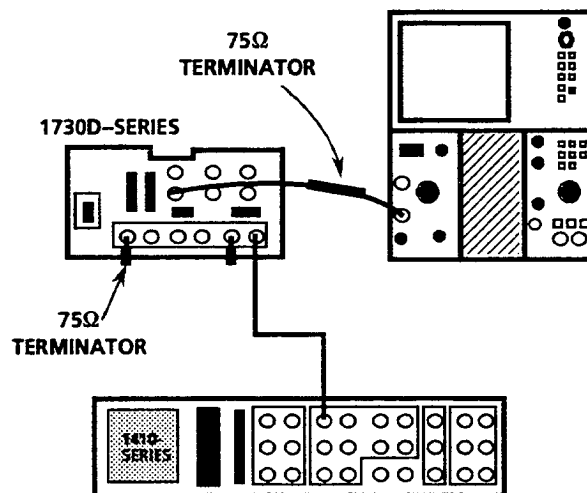

Figure 6-7: Using the test oscilloscope to check the 1730D PIX MON OUT
- b. Connect a coaxial cable from the PIX MON OUT to the test oscilloscope. Use an in-line terminator at the test oscilloscope. Connect the Composite Sync from the television test signal generator to the 1730D EXT REF. See Figure 6-7.